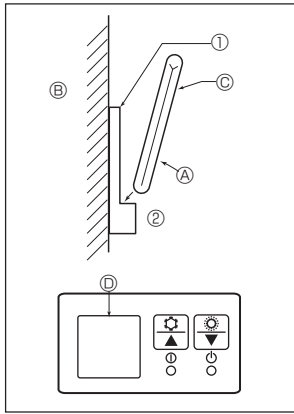

Fig. 6-7
2) Installation method (Fig. 6-7)
① Attach the remote controller holder to the desired location using 2 tapping screws.
② Place the lower end of the controller into the holder.